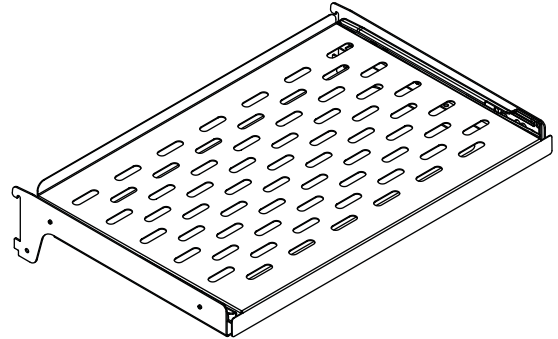

Figure 16
- (1) perforated stainless steel slide out shelf (See Figure 16).